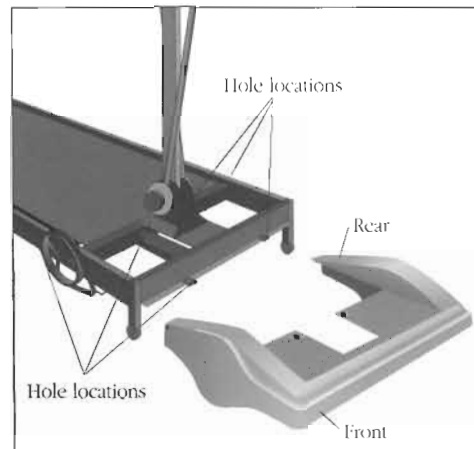

Figure 14
1. Position the shroud over the front of the treadmill base. The logos should be upright. (Figure 14).